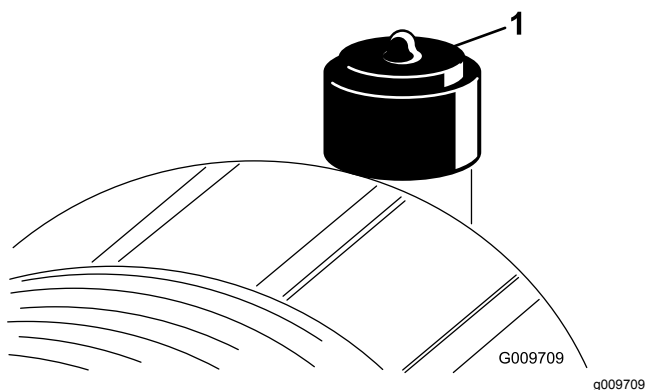

Figure 88
Service the air-cleaner filter only when the service indicator requires it (Figure 88). Changing the air filter before it is necessary only increases the chance of dirt entering the engine when you remove the filter.
2. Reset the indicator (Figure 88) if it shows red.